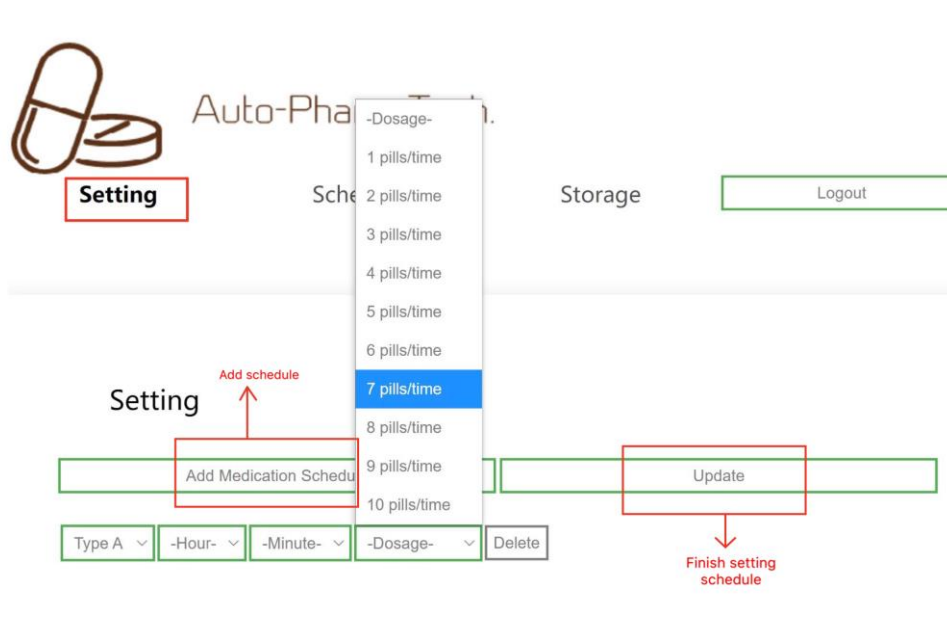

Figure 4: Website Timetables Setting Page
- II. Navigating to the "Setting" section, clicking on the "Type", "Hour", "Minute", "Dosage" slot, the drop-boxes will pop up. Choose the proper type, time, dosage from the drop boxes, as shown in figure 4.
- I. Click on the “Add Medication Schedule” to add another medication schedule, as shown in figure 4.
- II. Click on the “Update” button to update the medication schedule and dosage in the database, as shown in figure 4.